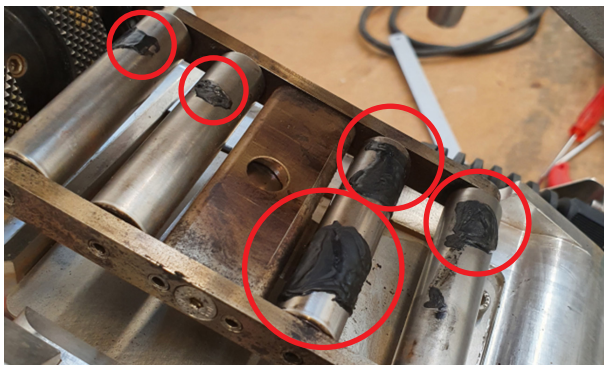

fig. 1
- All contact rollers on the upper and lower contact system should be clean and they should move freely. Remove any molten plastic (see fig. 1). If the bearings are damaged, please replace them.